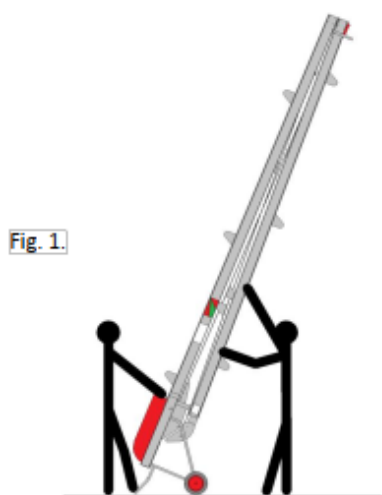

Fig. 1.
2. Lock wheel brakes on, then with man 1 standing on the hoop at the base of machine to counterbalance weight, (man 1 must remain in position to counterbalance machine throughout opening sequence). Man 2 raises the opposite end until machine bottoms on base hoop. (fig 1)